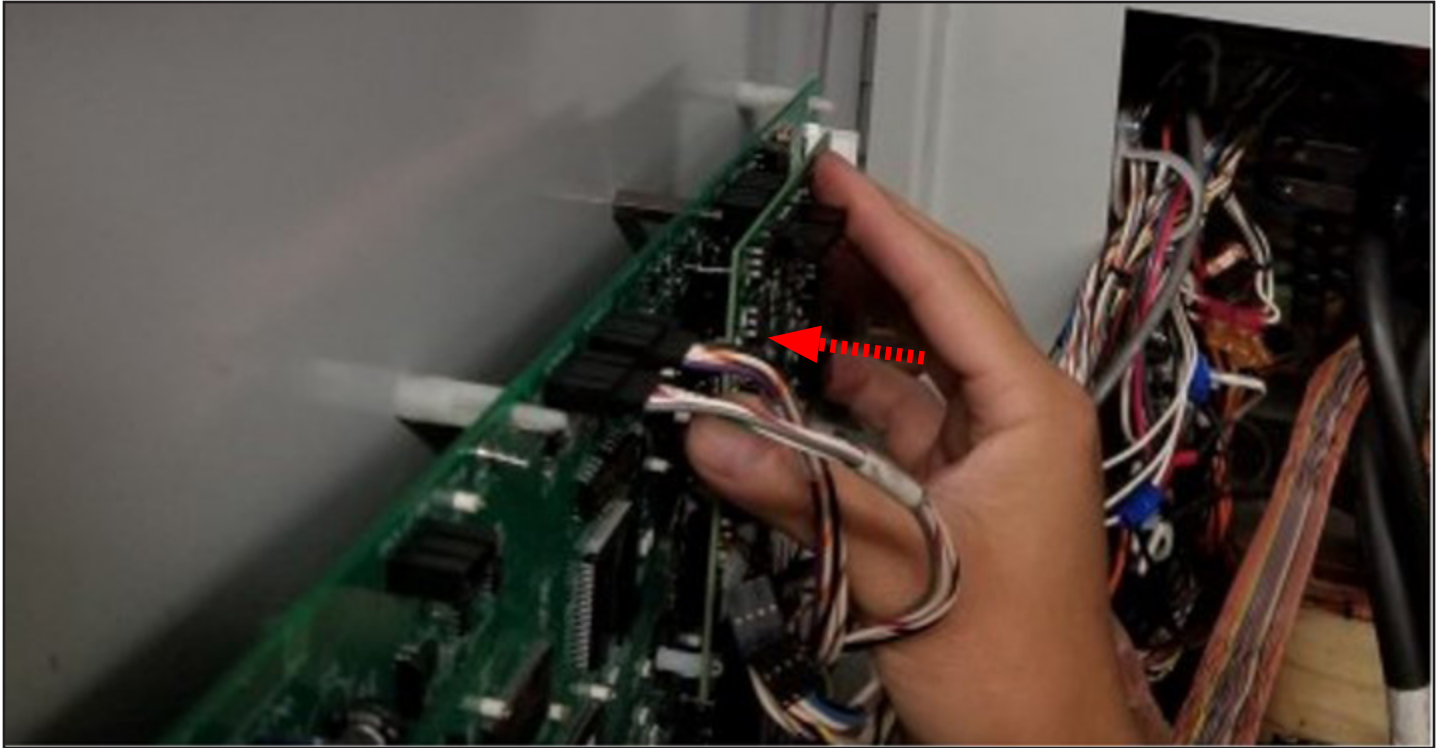

**Figure 4 – GCAN Board Connectors**
3.3.2 – Connect the GCAN board connectors on the board back (Figure 4) to the BMID A and BMID B ports on the GSE control board as shown below and on the next page (Figures 4 – 7).